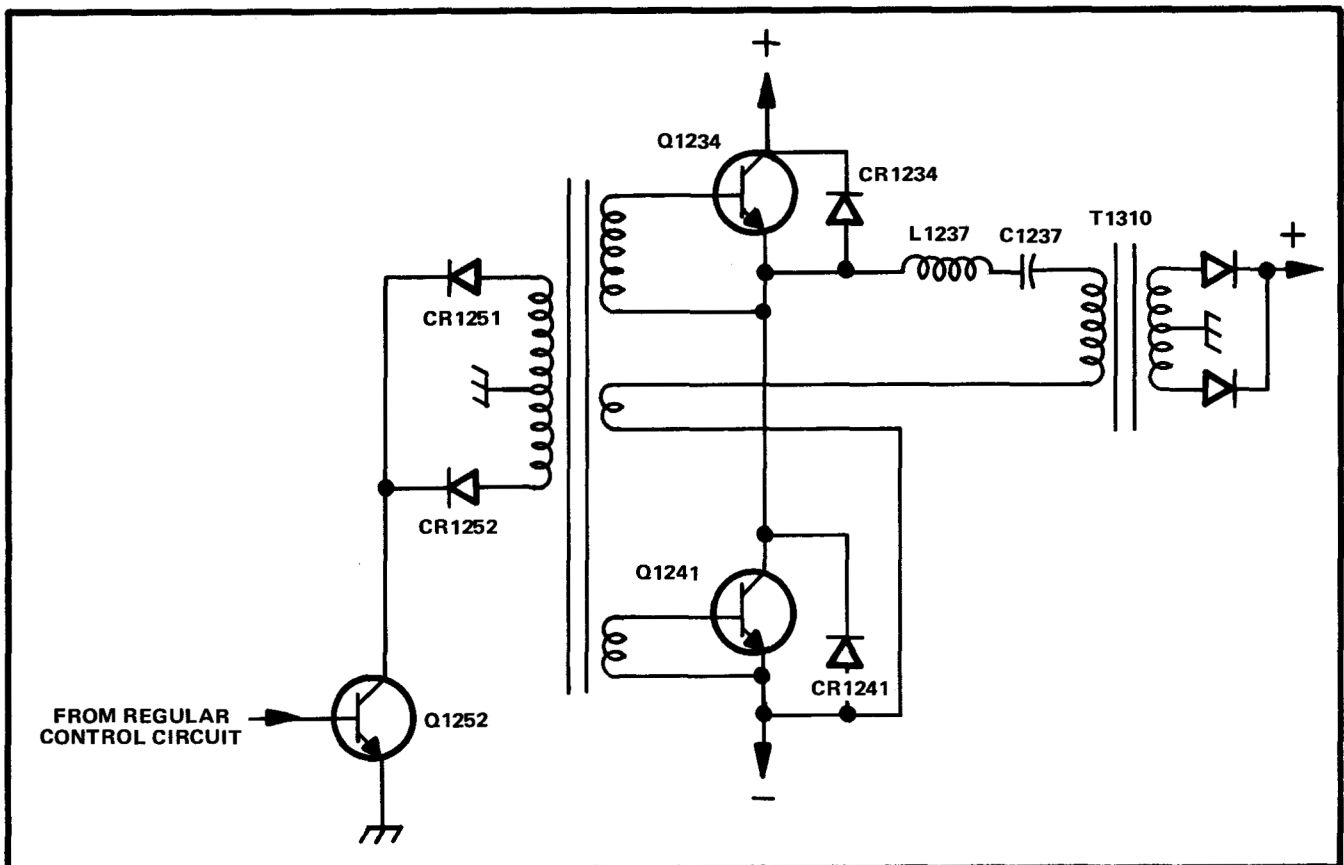

Fig. 3-14. Simplified Schematic of the Inverter Circuit.
**Inverter.** Refer to the simplified schematic shown in Fig. 3-14. In normal operation the Inverter is self-oscillating. Feedback required for oscillation is provided by regeneration of the base-drive transformer T1230. The turns ratio of T1230 causes the base current to be one-fourth the collector current; i.e., Q1234 and Q1241 operate with a forced beta of four.